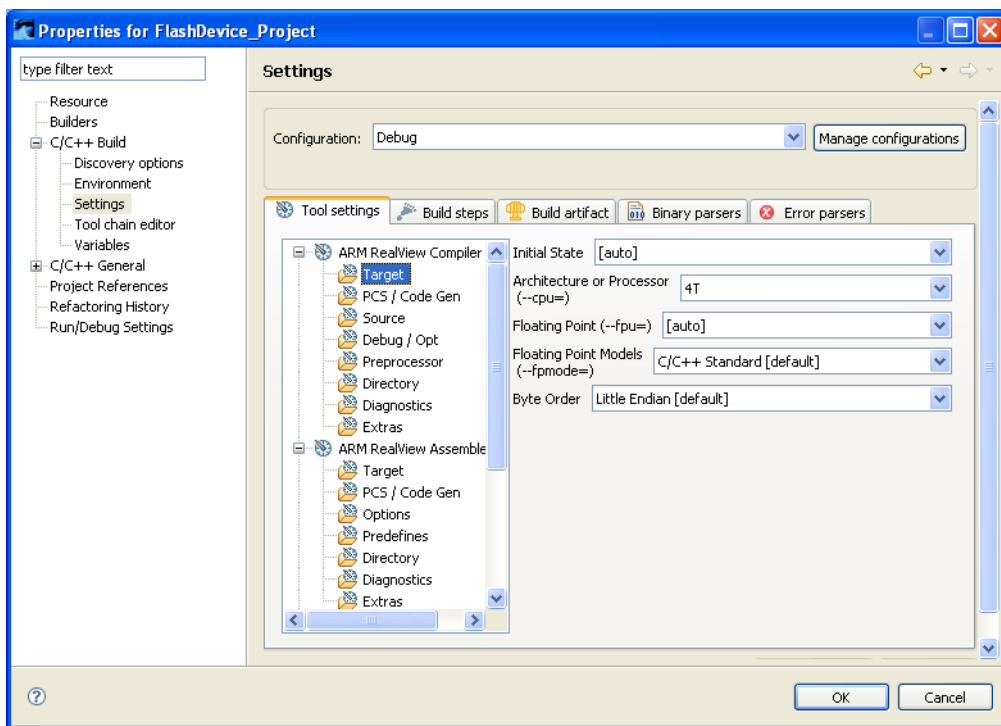

Figure 4-1 Build configuration panel for an ARM project
5. The compilation tools available for the project, and their respective configuration panels are displayed in the **Tool Settings** tab. See Figure 4-1.